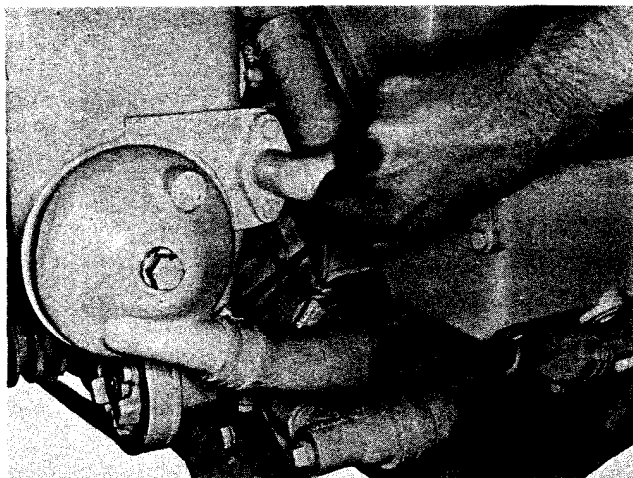

Fig. 1-9, (V11940). Tightening coolant hose clamps
2. Check for evidence of coolant leakage around tubing, hose connections, etc.; correct as necessary, Fig. 1-9. Inspect water pump bleed hole for leakage. Leakage indicates worn or damaged seal.